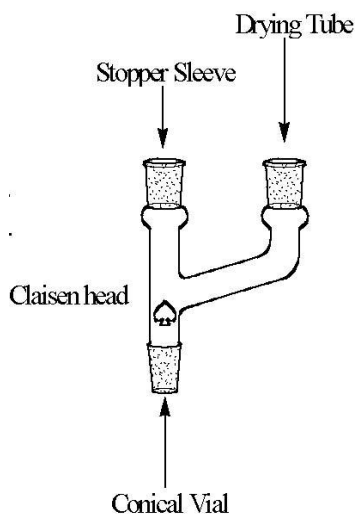

Figure 3. Apparatus assembly
1. Remove the dried glassware set from the oven. Cap them as quickly as possible once taken out of the oven. As soon as it is cool enough to handle, assemble the 5mL conical vial, the Claisen head, and the Drierite-charged drying tube, according to Figure 3 above.